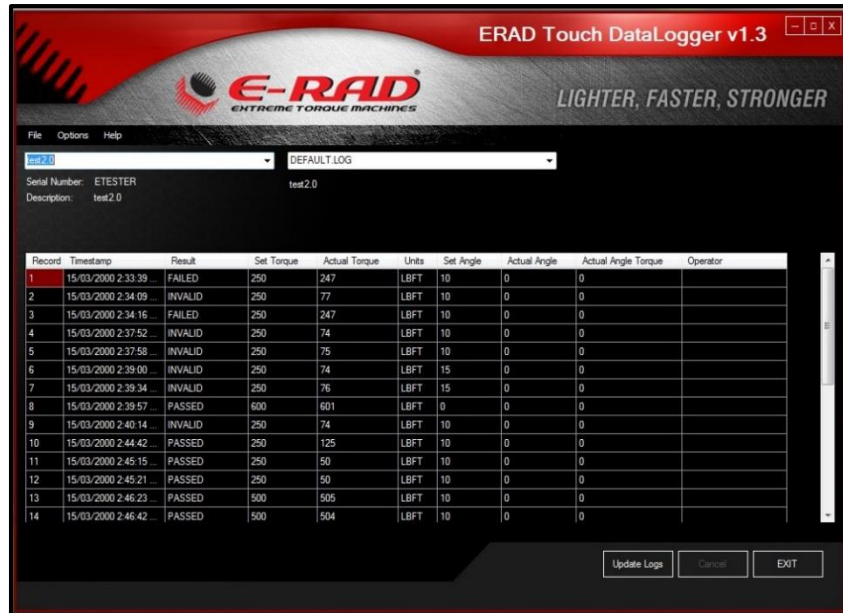

Figure 6.2-3: Data Logger Main Screen
4. Open the Data Logger Software (Figure 6.2-3).